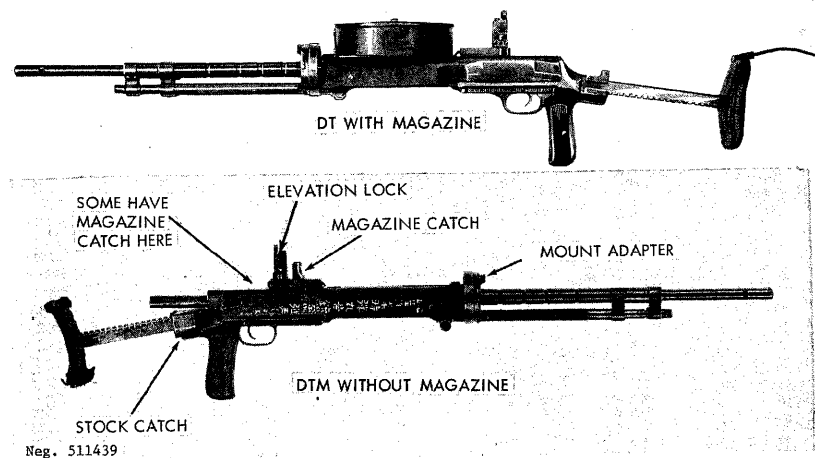

Figure 140. DT and DTM tank machinegun.
- (4) The DT and DTM (fig 140) tank machineguns.
- (5) The DA and DA-2 aircraft machineguns (not further covered in this publication).
e. Unfold the bipod by unsnapping the bipod clip from the right leg and swinging the bipod down into position; reverse this action to fold the bipod. The DTM stock is shortened or lengthened by pressing the stock catch (fig 140) and moving the stock to the desired position.
f. Adjust the rear sight of the DP, DPM, and RP-46 machineguns for the desired range by pressing the slide locks and moving the bar along the sight until the top of the bar is aligned with the line below the number that corresponds to the range in hundreds of meters. The DT and DTM rear sights are adjusted by pressing in the slide locks and vertically moving the sight to align the range number with its index. The front sights of all guns are adjustable for windage by means of a large screw on the right side of the base; they are adjustable for elevation zero by screwing the front sight post in or out. The DT and DTM have an accessory front sight that must be inserted into the mount adaptor (fig 140) before firing.
h. To unload or clear, pull the magazine release-rear sight guard (fig 135) of the DP or DPM rearward and lift the pan magazine off the receiver; press the magazine release (fig 140) of the DT or DTM to the side or rear (depending on the particular design) and lift the magazine off. Pull the rear sight guard of the RP-46 to the rear and, when the cover opens, lift the belt out of the gun. Pull the operating handle to the rear; insure that no cartridges are present in the chamber, receiver, or feedway; then press the trigger and ease the operating handle forward. Apply the safety and close all covers.